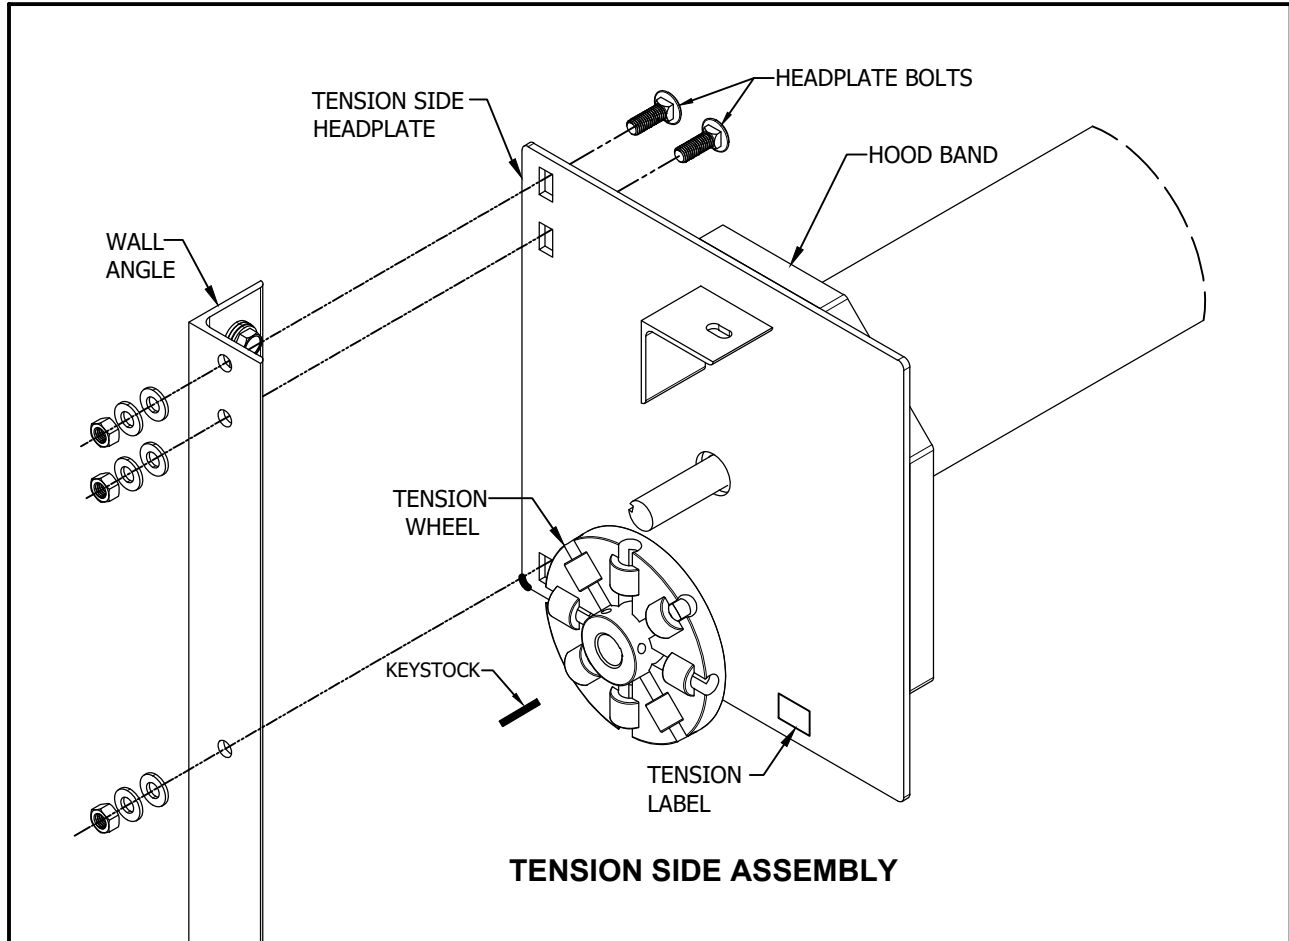

FIGURE 15
- a. Carefully secure barrel to hoisting equipment and raise into position at top of wall angles. Attach headplate brackets to inside of wall angles as shown in Figure 15.